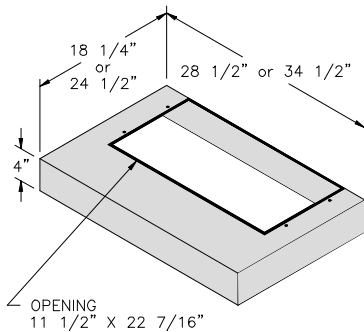

Figure 4
NOTE: T-shaped liner shipped with unit as standard. Rectangular shaped metal liner available for on-site Wood Hood construction, Figure 4.
E. Installation of Rectangular Metal Liner (Figure 4) (used for on-site construction of decorative Wood Hood)